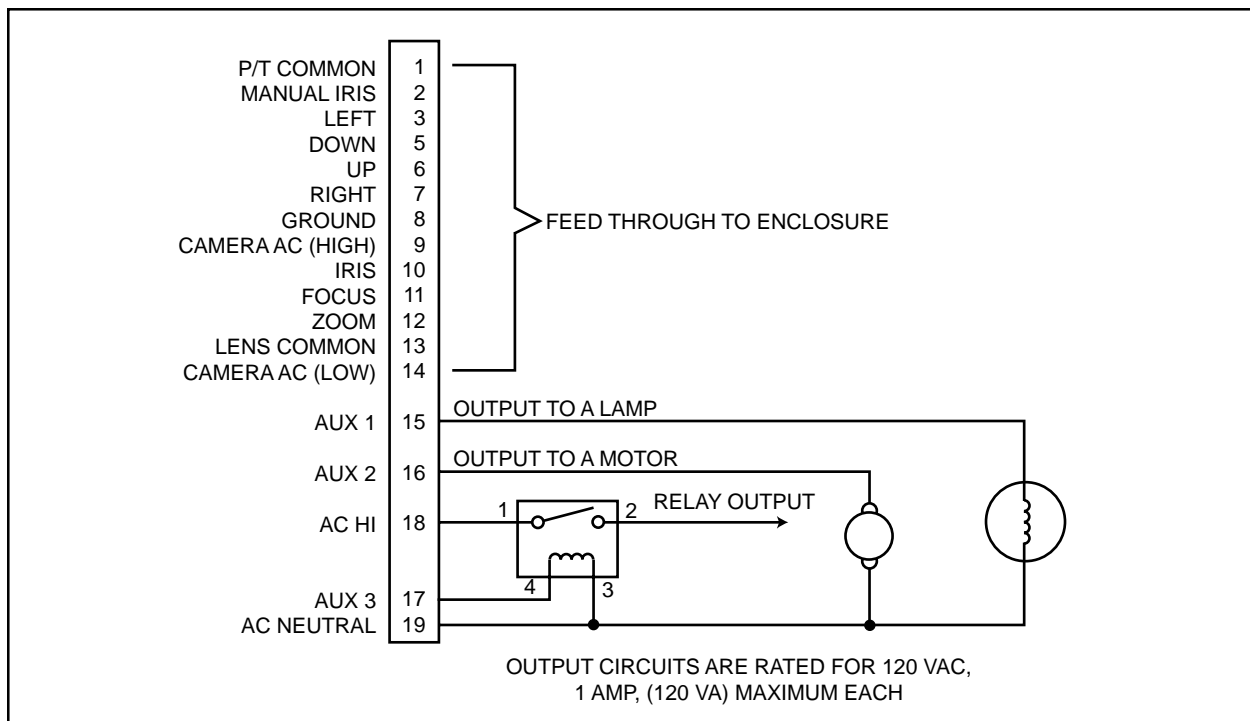

Figure 1. Typical Output Circuits
4. Connect the auxiliary device as shown in Figure 1.